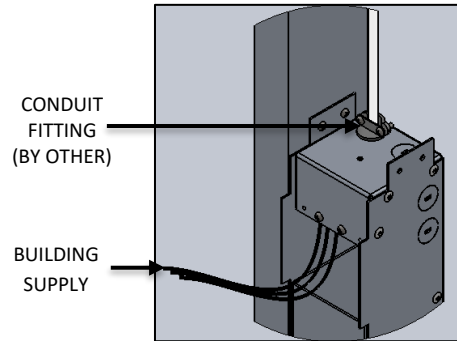

FIG. 14- DETAIL SHOWING
6. Attach appropriate 1/2" CONDUIT FITTING to knockouts and run building supply connections into the box. make sure to pull the wires out through the square opening as shown below in FIG. 14 & 15.